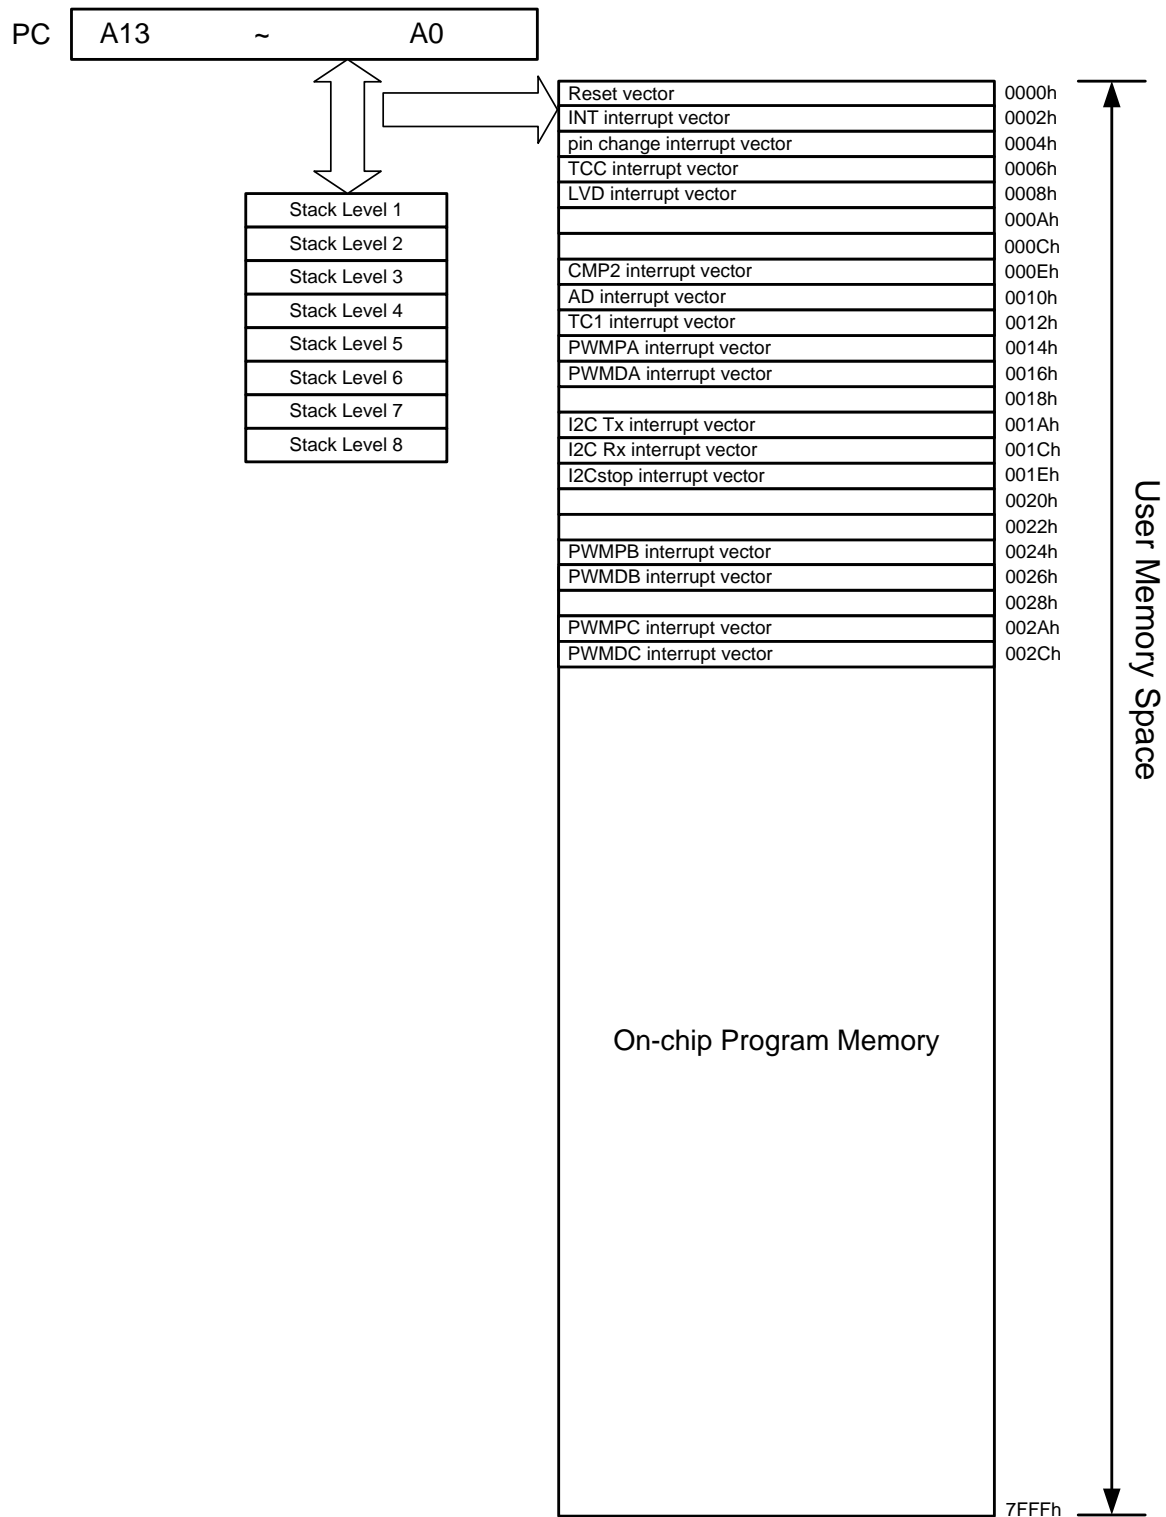

Figure 6-1 EM78P374N Program Counter Organization
- Depending on the device type, R2 and hardware stack are 14-bit wide. The structure is depicted in Figure 6-1.